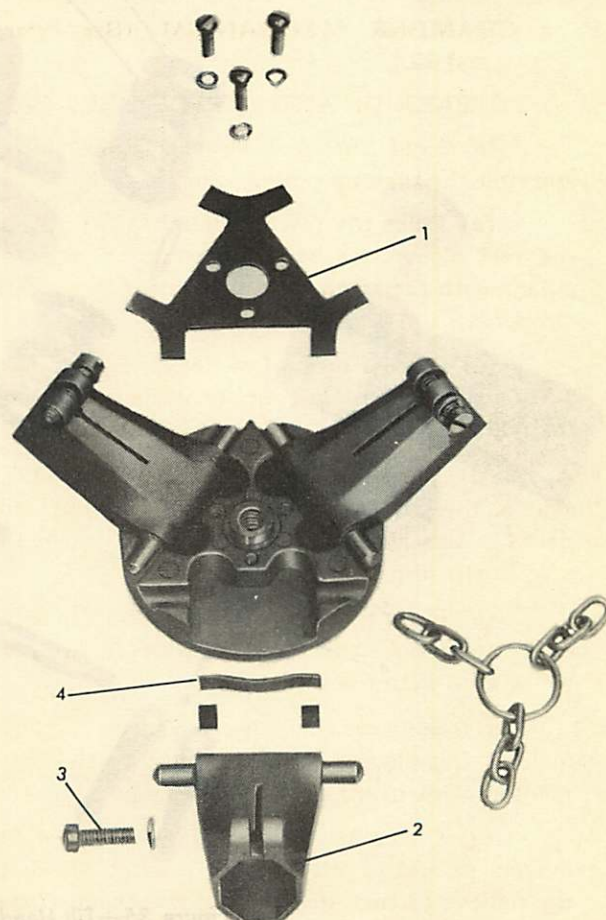
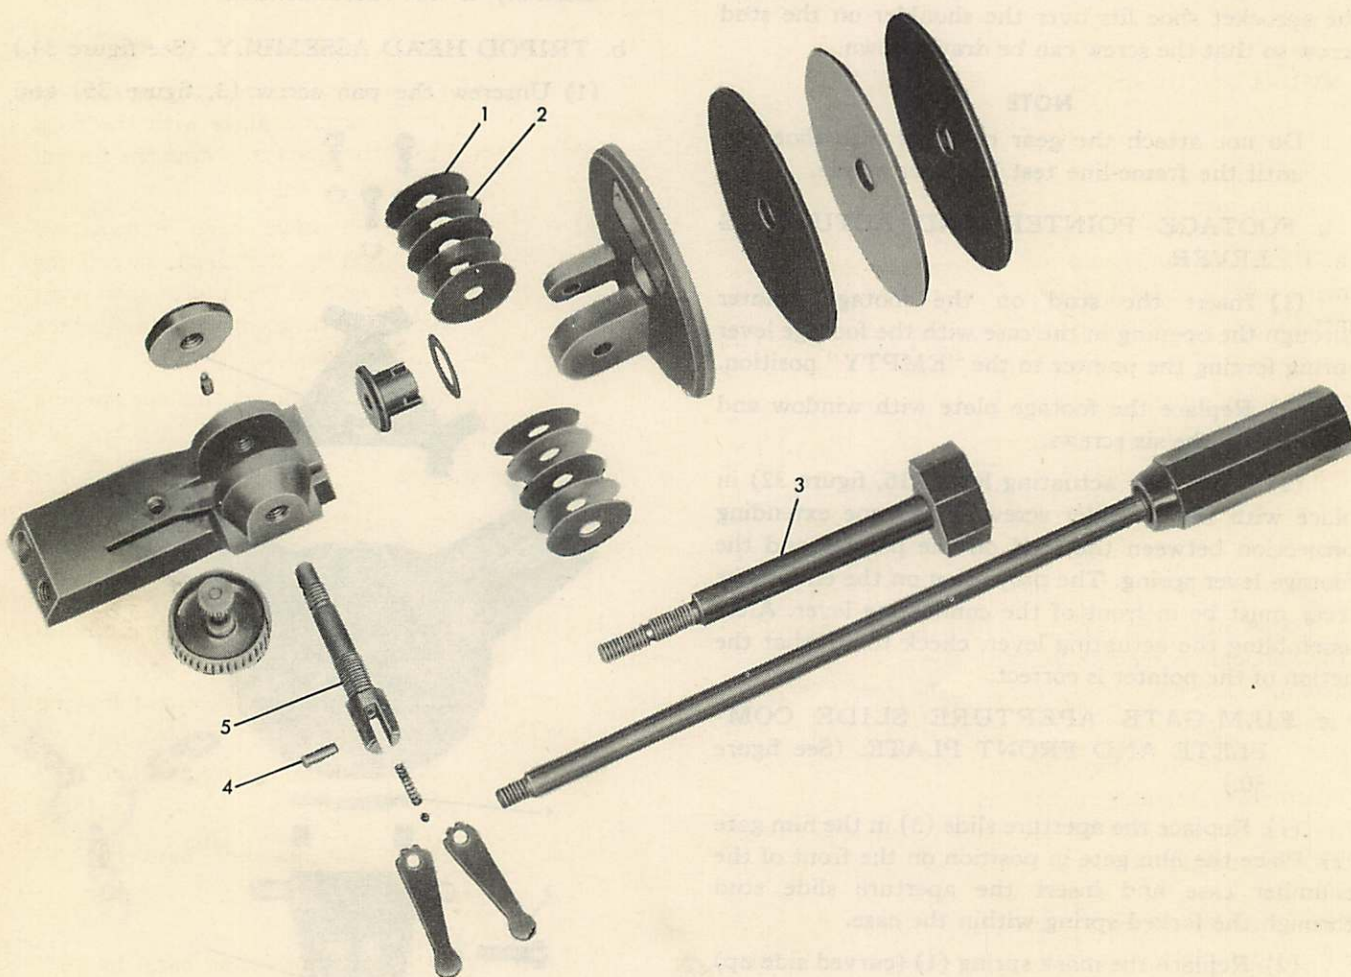

Figure 34—Tripod Head Assembly—Exploded
Figure 35—Tilt Head and Handle Assembly—Exploded
(1) Loosen the screw (3, figure 34) on the leg socket (2) and withdraw the leg assembly.
b. TRIPOD HEAD ASSEMBLY. (See figure 34.)
(1) Unscrew the pan screw (3, figure 35) and
(2) Remove the head spring plate (1, figure 34) by removing the three attaching screws and washers.
(3) Withdraw the leg socket (2) from the tripod head and the leg spring (4) and the two spring friction pads will be free.
c. TILT HEAD ASSEMBLY. (See figure 35.)
(1) Unscrew the tilt adjusting screw (5) to remove the tripod pan head and the fiber and brass tilt friction washers (1 and 2).
(2) The tilt adjusting screw assembly can be disassembled by driving the adjusting screw pin (4) from the screw.
a. TRIPOD HEAD ASSEMBLY. (See figure 34.)
(1) Assemble the leg spring (4) and two spring friction pads into the depression of the tripod head. Then force the leg socket (2) into place with the pins extending into the pin grooves of the tripod head.
(2) Attach the head spring plate (1) with the three attaching screws and lock washers.
(3) Insert the last link of each chain into the cutout of the leg sockets and screw the leg socket screws (3) into place.
b. TILT HEAD ASSEMBLY. (See figure 35.)
(1) Assemble two brass friction washers (2) between three fiber friction washers (1) and insert the tilt adjusting screw (5) through the tripod tilt head,
(2) Place the pan friction washer assembly on the tripod pan head.
(3) Attach the tilt head assembly to the tripod head by turning the pan screw (3, figure 35) into the pan nut of the tripod head.